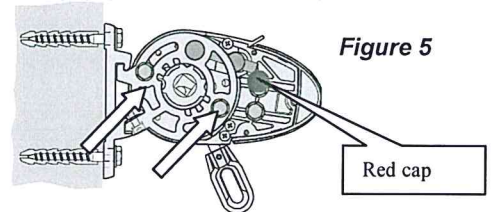

Figure 5
- **Caution!** Turn the clamping screws (Fig.5), 2 on each side, a maximum of one turn, but do not unscrew completely!
- The adjusting screw (Fig.5) for the hinged arms is located
- Undo the two screws (SW 13) on the arm holder (Fig.5), holding arm firmly while dismantling it.